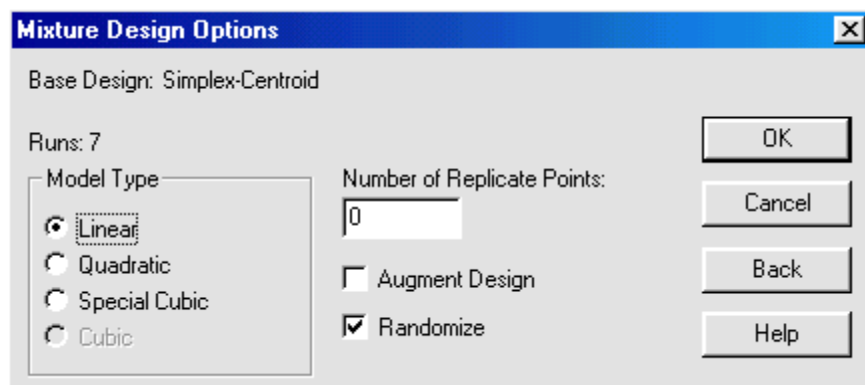

Figure 2-5. Mixture Design Options Dialog Box
7. Click OK to display the Mixture Design Options dialog box shown in Figure 2-5. The number of runs (7) also appears on this dialog box.